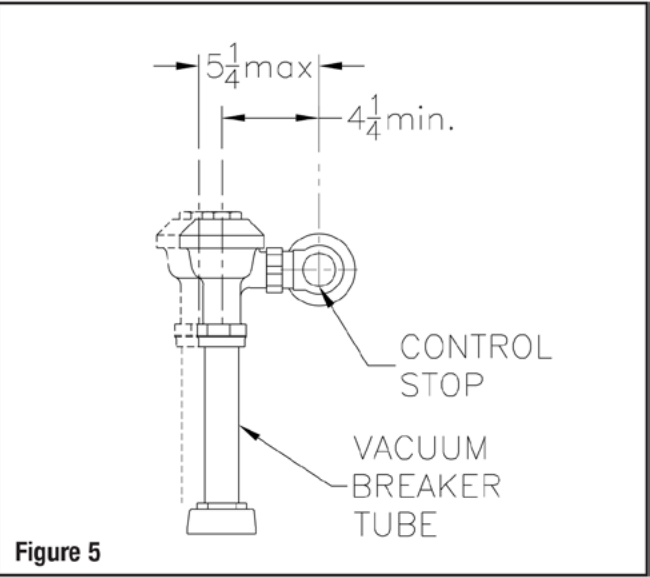

Figure 5
- Position valve body on control stop body and vacuum breaker tube. Valve body tailpiece compensates for mismatched rough-ins on the job. Maximum adjustment is 1/2" [13 mm] plus or minus the recommended 4-3/4" [121 mm] centerline of flush valve to centerline of control stop dimension (Figure 5).